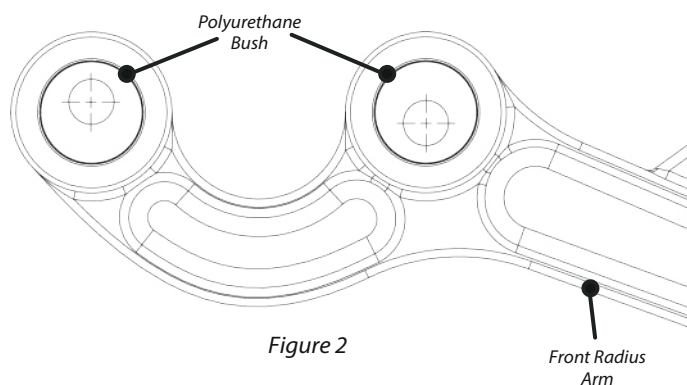

Figure 2
4. Fit the polyurethane bushes into the outer shell, keeping in mind the correct alignment, as shown in Figure 2.